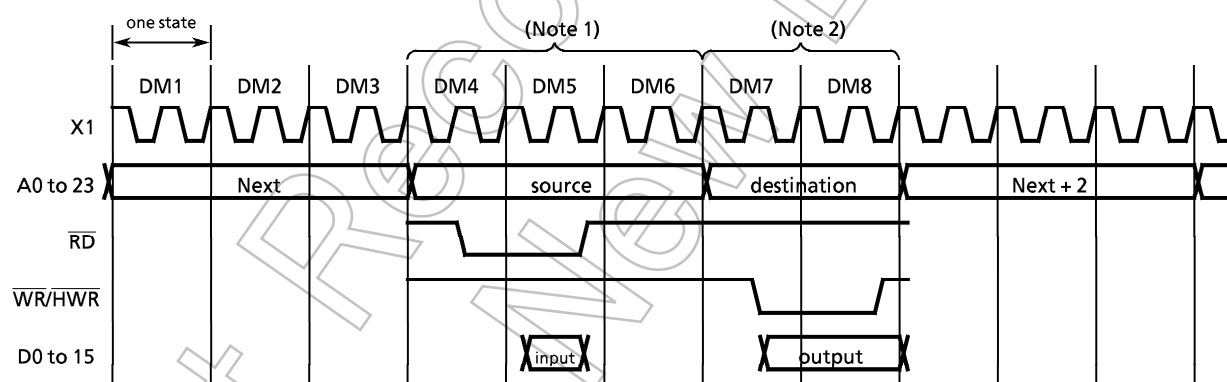

Figure 3.3 (2) Micro DMA Cycle Diagram
Figure 3.3 (2) shows the micro DMA cycle for 1-word transfer in transfer destination address INC mode (the same apart from counter mode). (In case with an external 16 bit bus width, 0 wait and an even number of a source/destination address).